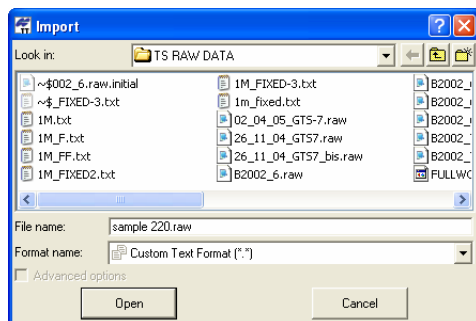

Figure 3-26. Import Custom TSWRaw Format File
4. Set the desired *Advanced options* (Figure 3-26 on page 3-29): define the projection type, coordinate order, and type of vertical angle if known.